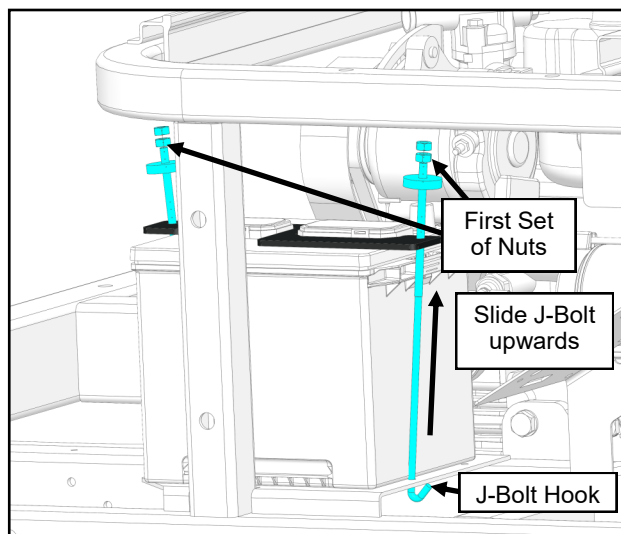

Fig. 2.3 (Install J-Bolts)
- 2.3 Install J-Bolts by sliding them from underneath the battery mounting bracket towards the battery strap as shown on figure 2.3. Make sure the hook on the J-Bolt is towards the edge of the mounting bracket. Next, install rubber washers and then the first set of 1/4-20 hex nuts onto the thread of the J-Bolt. Tightening the lower nuts to the rubber washers first. Then install and lock the second set of nuts against the first set.